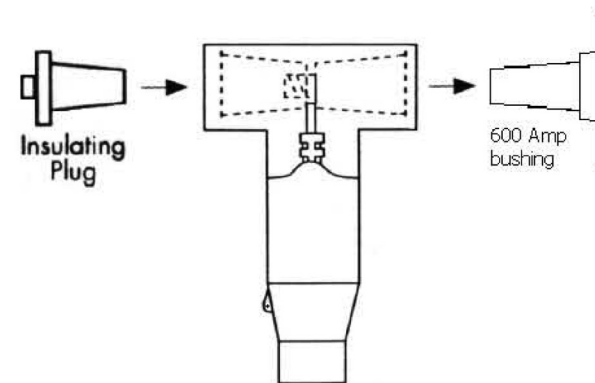

Fig. 11 - Assembly to Bushing Well
C. Align the T-Body to the apparatus bushing interface. Insert the insulating bushing and hand tighten to prevent cross-threading. Tighten the insulating bushing to 50-60 ft-lbs of torque using a 1" socket and a torque wrench. (See Figure 11.)